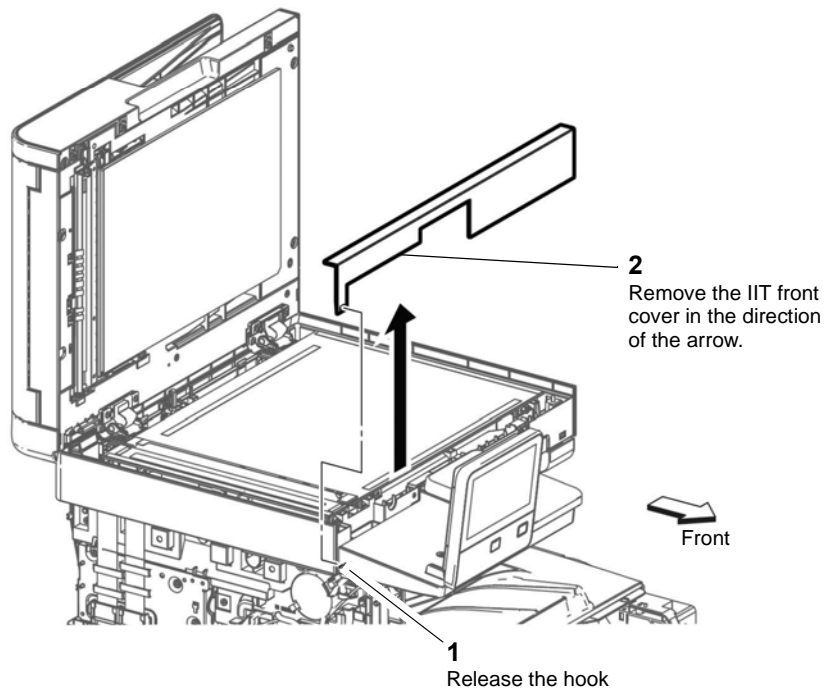

Figure 1 IIT front cover
1. Remove the IIT front cover, Figure 1.